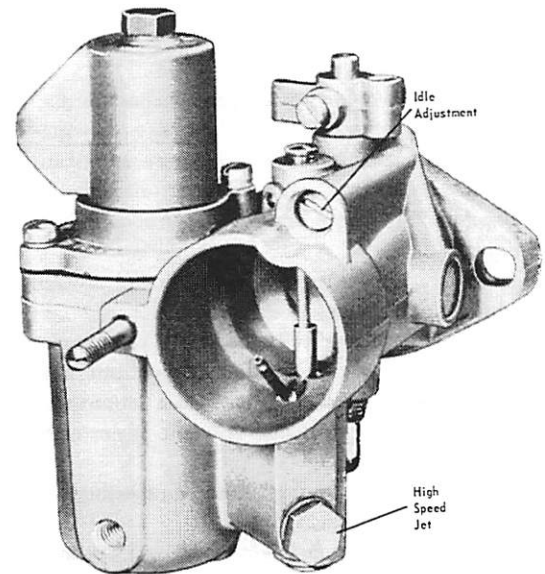

Figure 8. Idle Adjustment
2. Start with all idle needles one turn open and adjust for maximum RPM with distributor retarded to give about 600-700 RPM. (Figure 8)
4. With engine running at idling speed while in forward gear, turn low speed mixture adjusting needle counterclockwise until affected cylinders start to "load up" or fire unevenly due to overrich mixture. (Figure 8)